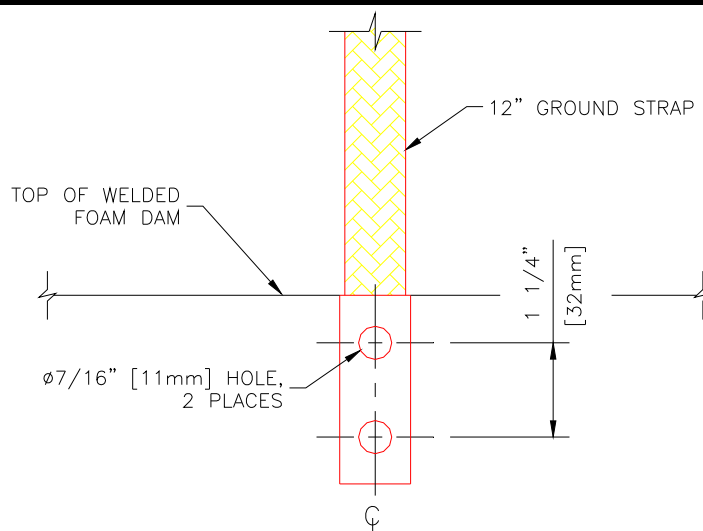

Figure 10: 12" Flexible Ground Strap End
Locate an attachment point to the welded foam dam that is vertically aligned with the RGA, then create two (2) 7/16 in. [11mm] diameter holes using the Ground Strap as a template, see Figure 10. Scrape paint and rust from around the drilled holes and under the ground strap mounting surfaces to bare metal. Apply Lectra Shield to both sides of the holes and all bare metal to prevent rusting.